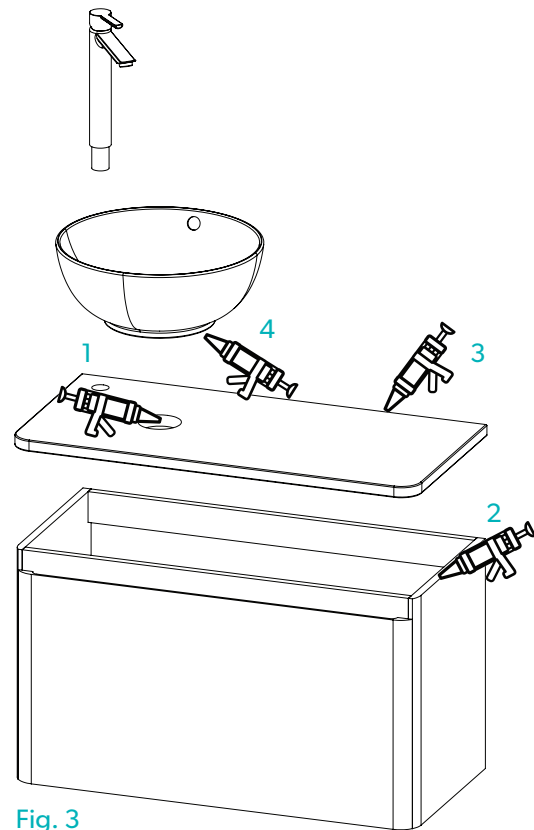

Fig. 3
8. Seal **ALL** cut edges with a silicone or polyurethane sealant (as per **Fig. 3, 1**), as this will help to protect the countertop from any moisture penetrating the core.
9. Install the countertop onto the furniture unit with silicone sealant (as per **Fig. 3, 2**).
10. Silicone across the back of the countertop, against the wall (**Fig. 3, 3**). This will prevent any water from getting behind the furniture unit.
11. Install the basin and brassware (if applicable) to the countertop, again using a silicone sealant to prevent any water getting underneath (as per **Fig. 3, 4**).